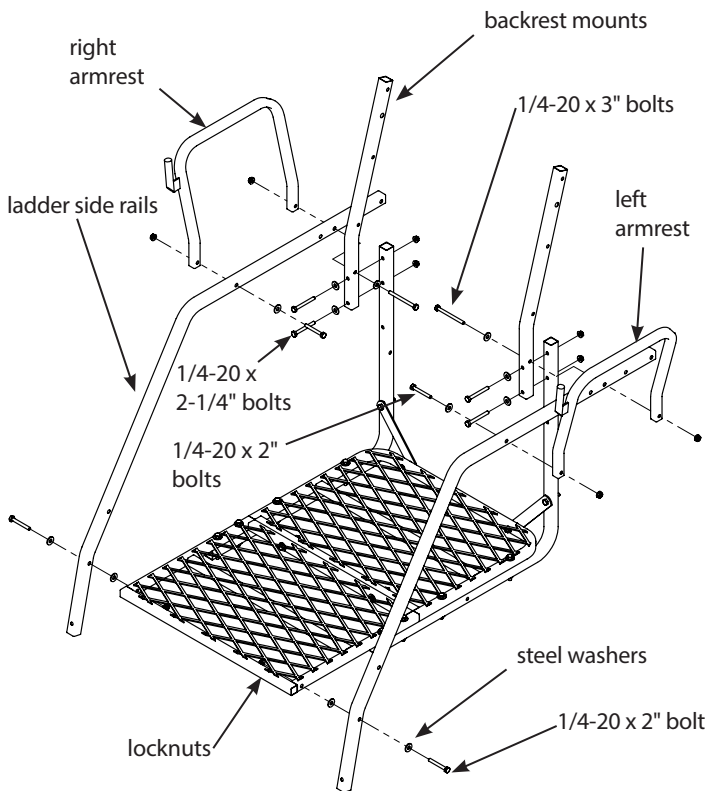

Figure 3
4. Attach the front of the ladder side rails (410053) to the front platform using (2) provided 1/4-20 x 2" bolts, locknuts and (4) steel washers. **SEE FIGURE 3.**
5. Attach the left armrest (410062L), right armrest (410062R) and (2) backrest mount tubes (410082) to the previously assembled ladder side rails and platform support rails using (2) provided 1/4-20 x 2" bolts, (4) 1/4-20 x 2-1/4" bolts, (2) 1/4-20 x 3" bolts, (8) locknuts and (8) steel washers. **SEE FIGURE 3.**